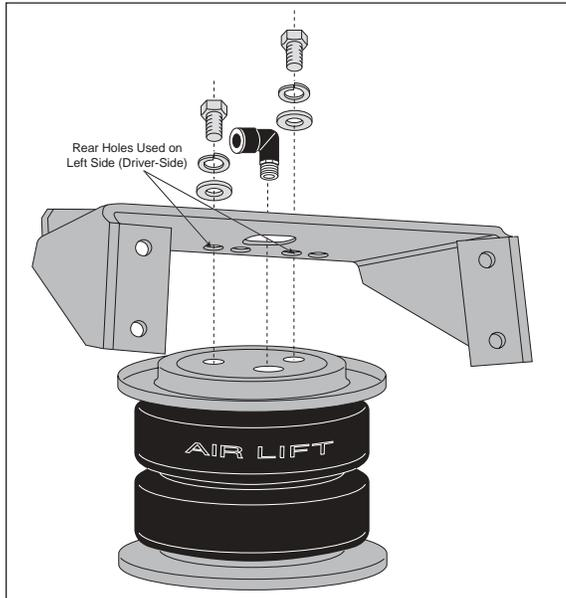

Figure 2
1. Set a roll plate (D) on both ends of the air spring (A). The radiused (rounded) edge of the roll plate will be towards the air spring, so that the air spring is seated in both roll plates (Figure 2).
2. Install 90° elbow fitting (E) to the top of the air spring. Tighten finger tight plus 1 and  $\frac{1}{2}$  turns. Be careful to only tighten on the metal hex nut. Do not over tighten.
3. When installing the upper bracket (B) to the air spring and roll plate, use the rear-ward holes for the left (driver-side) installation and, when installing the bracket on the right side (passenger-side) of the vehicle, continue to use the rear-ward most holes (Figure 2). The upper bracket is marked "L" and "R" on the top. Attach the assembly using two  $\frac{3}{8}$ " bolts (I), lock washers (L), and flat washers (K). Tighten hardware to 20 ft-lbs.